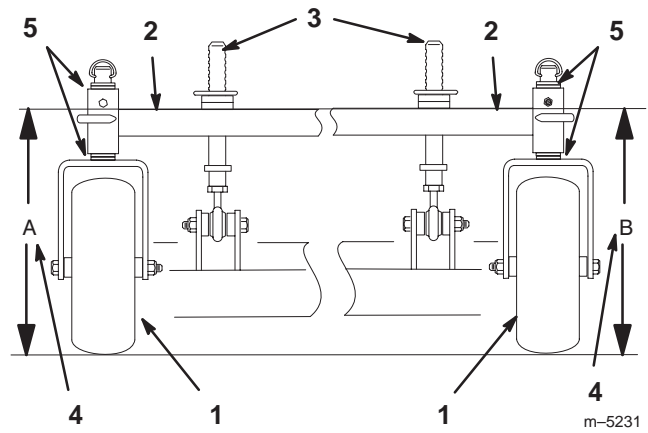

Figure 51
- Measure carrier frame height at location **A** (Fig. 51).
- Measure carrier frame height at location **B** (Fig. 51).